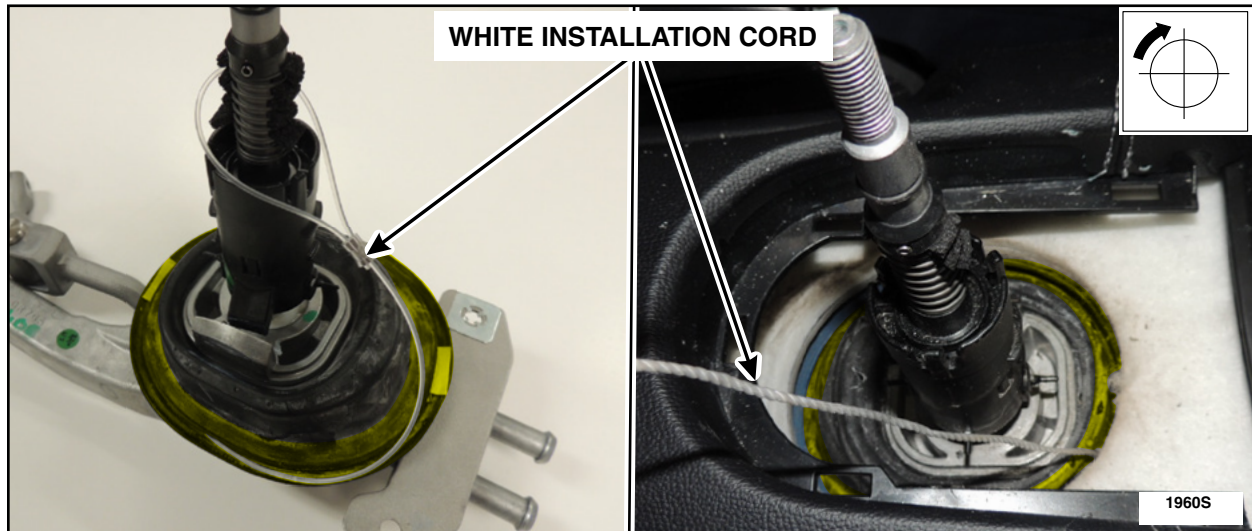

FIGURE 19
28. Inside the vehicle, pull the white installation cord upwards and clockwise at the same time, to seat the attached gearshift assembly's rubber grommet to floor pan seal over the sheet metal. See Figure 19.